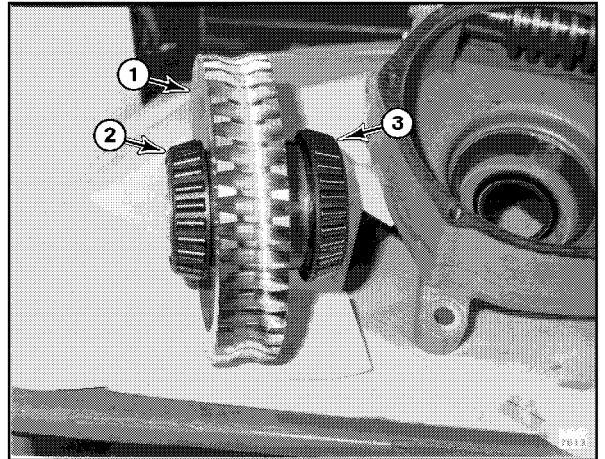
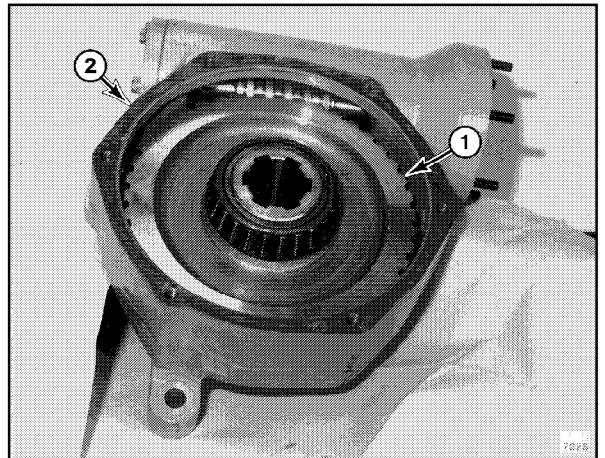

Figure 29
Figure 30
- 8. Using an arbor press and suitable adaptor, press bearing cones (2 and 3, Figure 29) on circle reverse gear (1).
- 9. Insert circle reverse gear (1, Figure 30) in circle reverse case (2) with longer shoulder to the bottom of case. (Bearing cone (3, Figure 29) is mounted on long shoulder.)